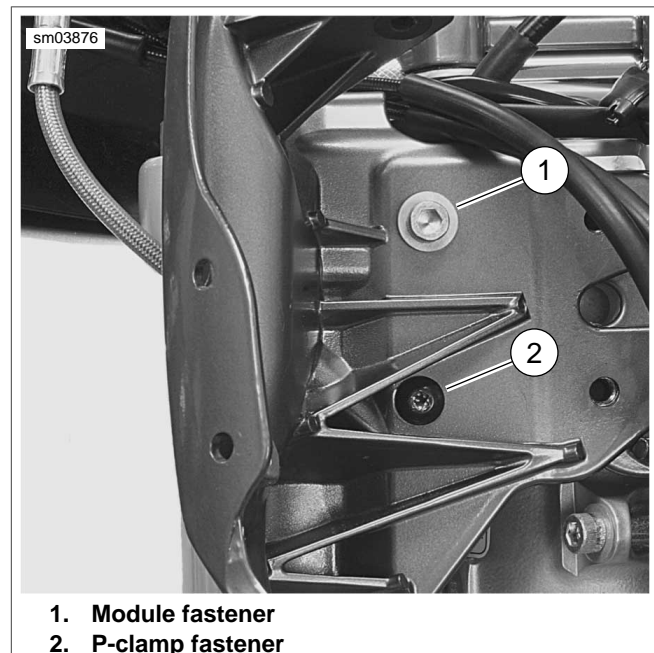

Figure 2-149. Front Module
See Figure 2-149. Once the ignition switch has been removed there will be two remaining fasteners.
10. See Figure 2-149. Remove fastener attaching p-clamp to rear side of right front module.
11. See Figure 2-149. Loosen but do not remove final fastener securing the right front module to upper triple clamp.
13. See Figure 2-149. Remove the final fastener and the right front module.